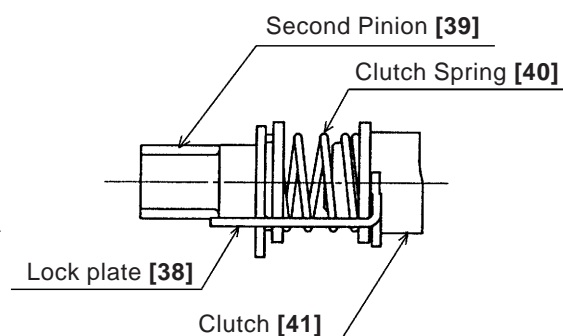

Fig. 2
- Pull out the Second Pinion **[39]**, the Clutch Spring **[40]**, the Clutch **[41]**, and the Lock Plate **[38]** (these parts are sandwiched by means of the Lock Plate **[38]** as a unit as shown in Fig. 2) from the end of the second shaft of the Gear. Shaft Set **[42]**. Turn the Reciprocating Bearing **[44]** so that the Piston **[33]** is moved to its maximum upper position (inner cover side). The arm of the Reciprocating Bearing **[44]** can then be disconnected from the Piston Pin **[34]**, and the Gear. Shaft Set **[42]** and the components mounted on the second shaft can be removed from the Inner Cover **[36]** as a unit.